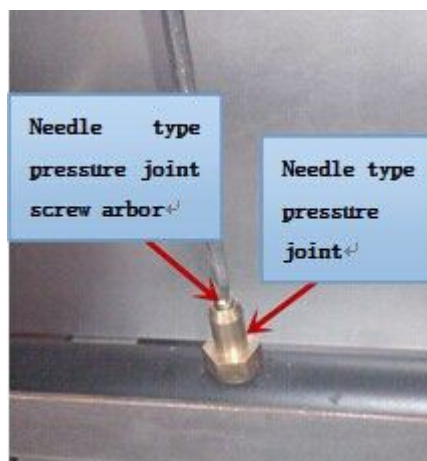

Fig. 2
- Remove top panel, and needle type pressure joint screw arbor (Fig. 2), then slip rubber tube of pressure gauge over needle type pressure joint;
Revolve the control valve knob clockwise to "0" (Fig.2), so that extinguish flame of the main burner, but the pilot light still works.